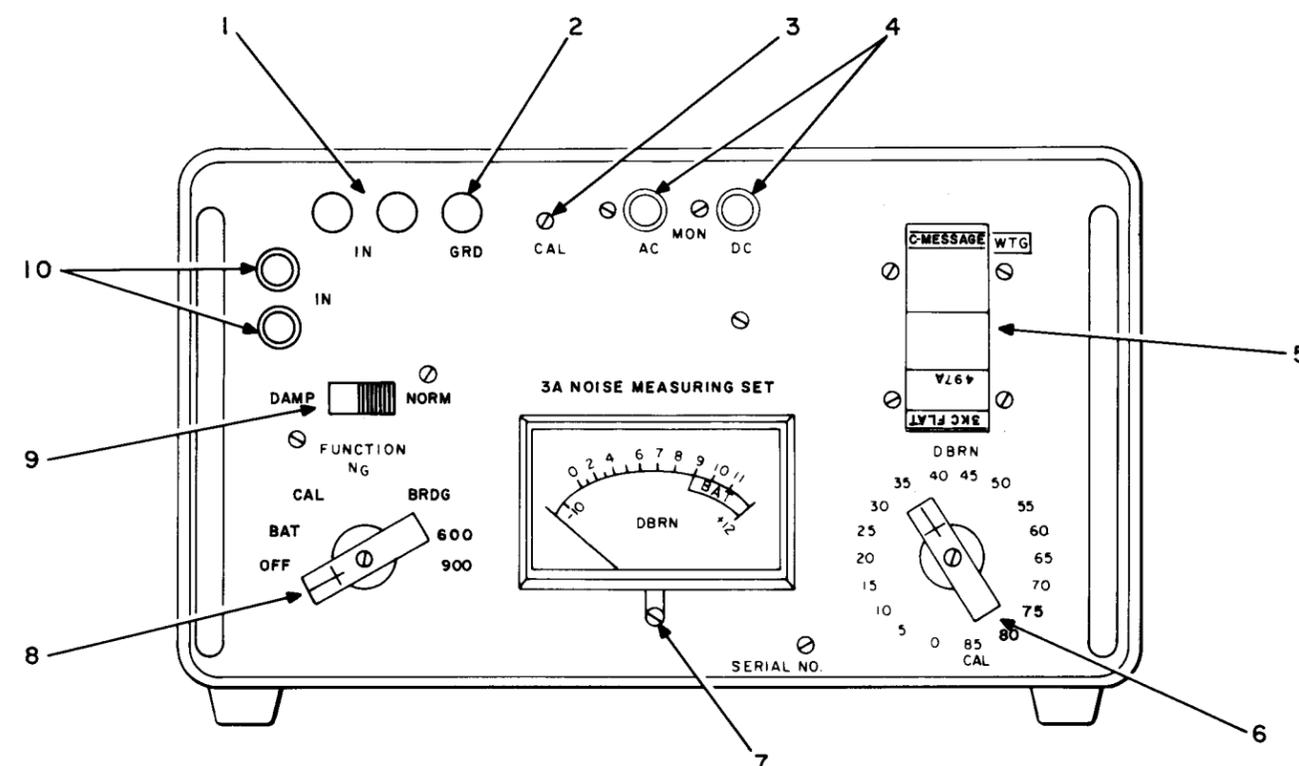

Fig. 4-11—3A Noise Measuring Set
- (1) Select the proper weighting network based on the information on the CLR and plug it into position, with appropriate orientation.
- (2) Calibrate the set as described in 4.90.
- (3) Turn the FUNCTION switch to the position which will be used for the measurement (see FUNCTION switch in Fig. 4-11).
- (4) Check for pickup from external magnetic and electrostatic fields. With no input connected to the set, adjust the DBRN switch to 0. If there is a deflection on the meter, position the set to minimize the deflection. **Make sure the GRD post of the 3A is connected to ground.**
- (5) Restore the DBRN switch to the 85 position.
- (6) Connect the circuit to be tested to the input of the set, using the appropriate cord as described above.
- (7) Adjust the DBRN switch counterclockwise until a suitable deflection of the meter is obtained. The most accurate indication will be obtained when the meter indicates between +2 and +9. Observe the meter for about 10 to 30 seconds and establish the point at which the meter needle appears **most of the time**. Add the meter indication to the DBRN switch setting for total noise in dBrn with respect to the weighting used.
- (8) Always use the monitoring receiver in the course of measurements to aid in identifying the noise. The character of the noise heard should be recorded along with the noise measurement.
- (9) Rapidly fluctuating noise (ie, atmospheric, static, or switching type noise) can be more conveniently read on the meter by operating the DAMP/NORM switch to the DAMP position. The most frequently occurring peaks should be used in reading the meter, however, this type of measurement will not give an indication of the actual noise peaks.